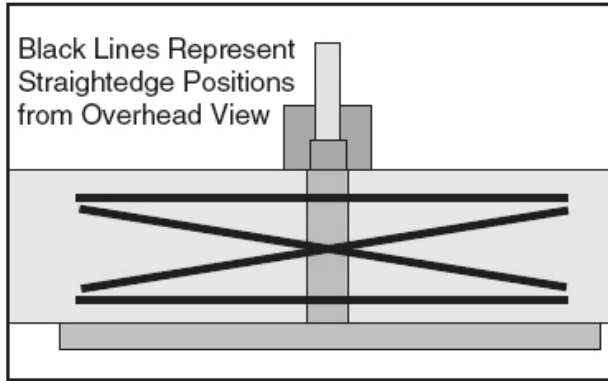

Figure 35. Straightedge positions for checking infeed/outfeed table parallelism.
2. Place the straightedge halfway across the infeed table and halfway over the outfeed table, as shown in **Figure 35**.
3. Place the straightedge in one of the positions shown in **Figure 35**.